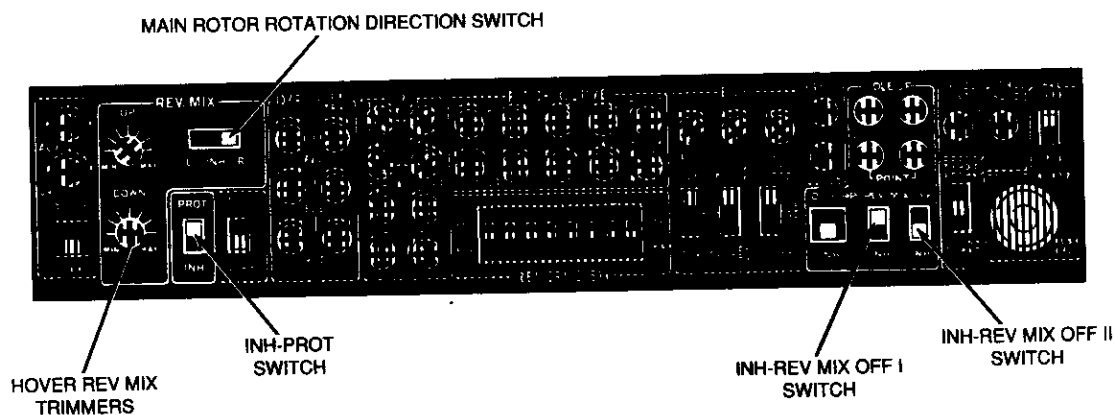

FIGURE 29
1. First, viewing the helicopter from above, set "L-INH-R" switch, Figure 29, under the trimmer panel in the same direction as the rotation of the rotor. If the main rotor turns to the right (clockwise) set the switch to "R". If the main rotor turns to the left (counterclockwise), it should be set on "L".
The "INH-PROT" switch, Figure 29, protects the hovering memory from accidental cut-off of Hovering Memory, when the switch is placed in the "PROT" position. Cut-off could occur if the Hovering Memory switch (27), were inadvertently moved to the "OFF" position. When the "INH-PROT" switch is in the "PROT" position, the memory will be retained no matter what position the Hovering
There are two 'INH-REV MIX OFF' switches on the trimmer panel, Figure 29, which are associated with REV MIXING as well as IDLE UP. When the "INH_REV MIX OFF I" switch is in the "REV MIX OFF" position, activation of the IDLE UP I switch (25) will cancel the REV MIX action of the Rudder servo so long as the IDLE UP I switch is in the "ON" position.